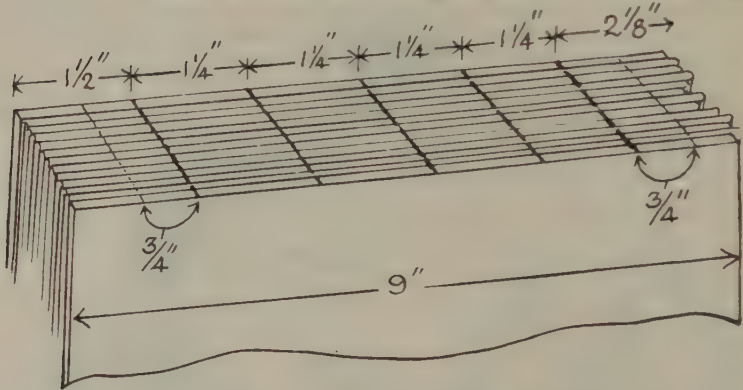

FIG. 168—BACK OF BOOK "MARKED-UP" PROPERLY FOR "SAWING-OUT"
4. Measure the length of the back of the book, and, assuming it is 9" long, mark off with soft black pencil firm black lines as in Fig. 168. Use your T-square in order that lines may be truly at right angles with boards.